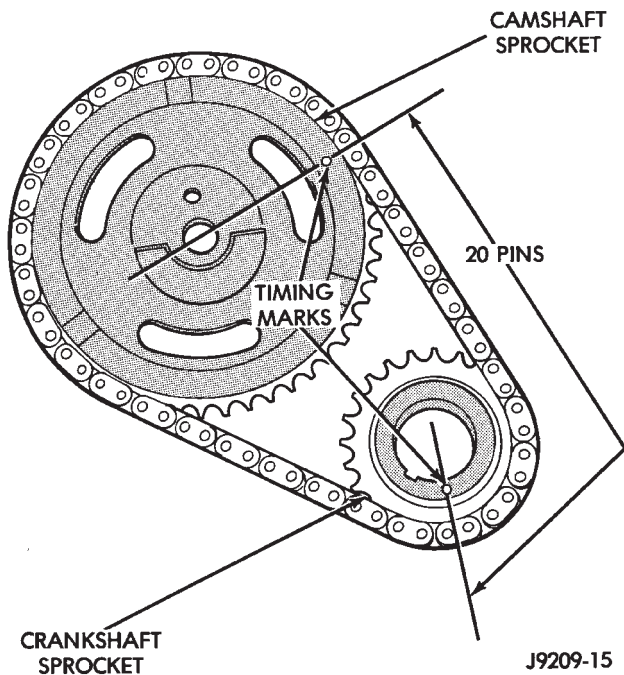

Fig. 17 Verify Crankshaft/Camshaft Installation
- (5) To verify correct installation of the timing chain, turn the crankshaft to position the camshaft sprocket timing mark as shown in Fig. 17. Count the number of chain pins between the timing marks of both sprockets. There must be 20 pins.